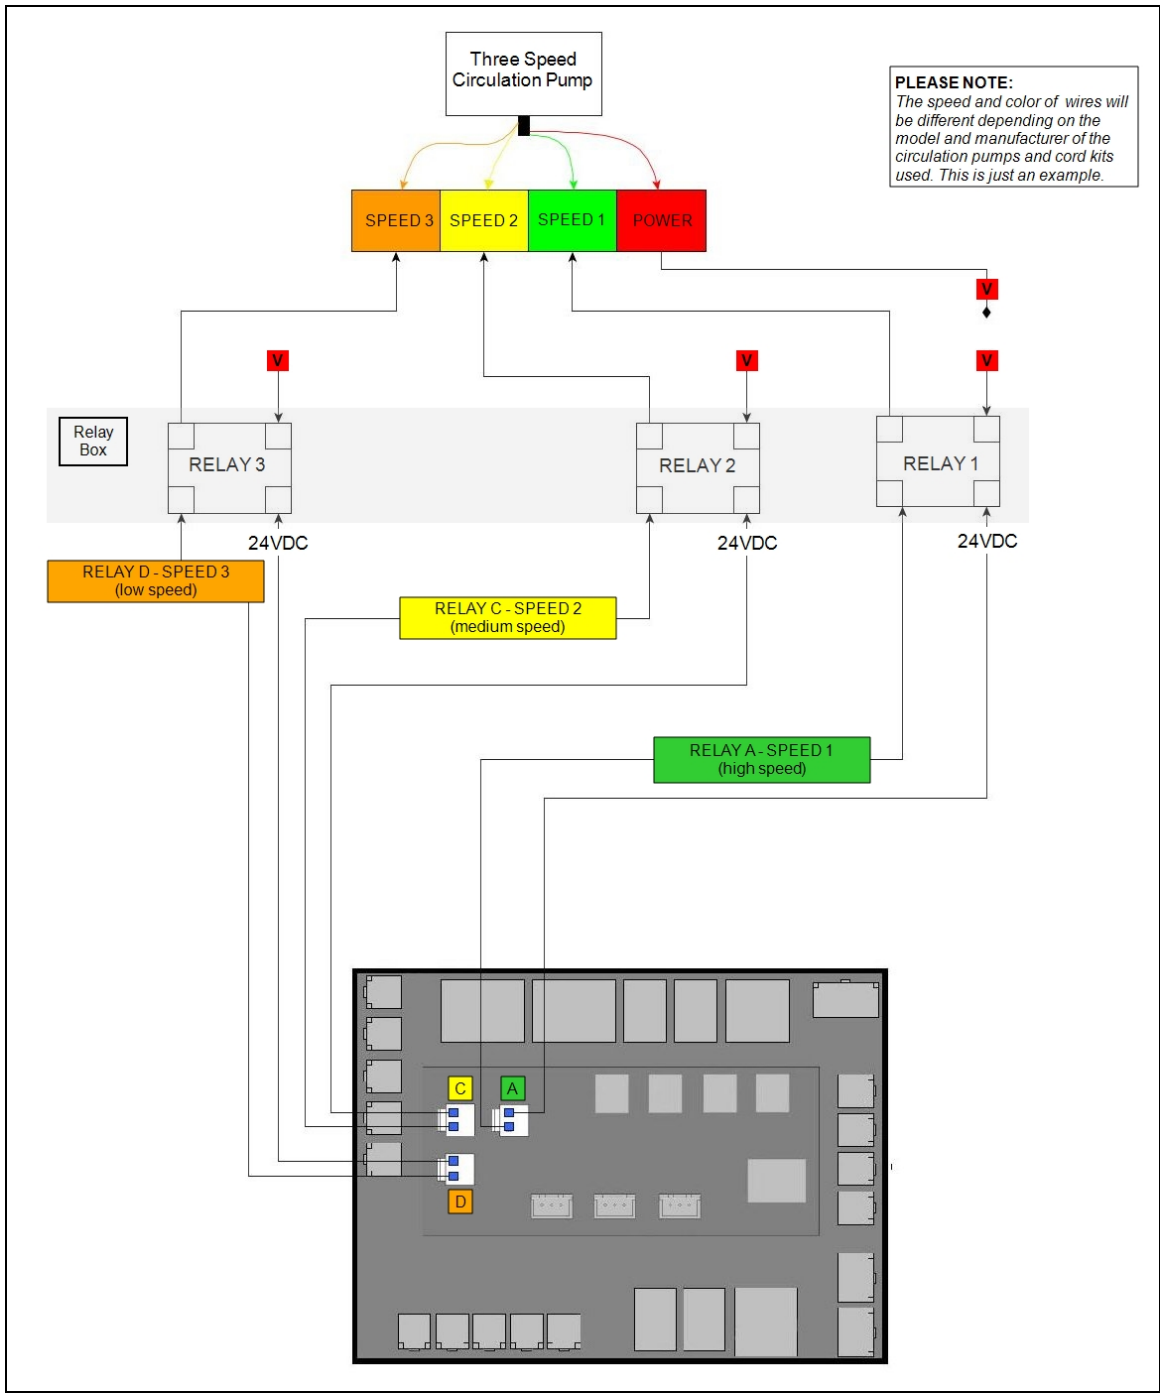

Figure 4 - Wire Connection Points
2. Wait two (2) minutes for power to discharge from heat pump's capacitors.
4. Connect the four (4) wires to run to the relay box as shown in the diagram. See Figure 4.
8. Connect the wires to the heat pump's relay connection points using relay connectors. See Figure 4.